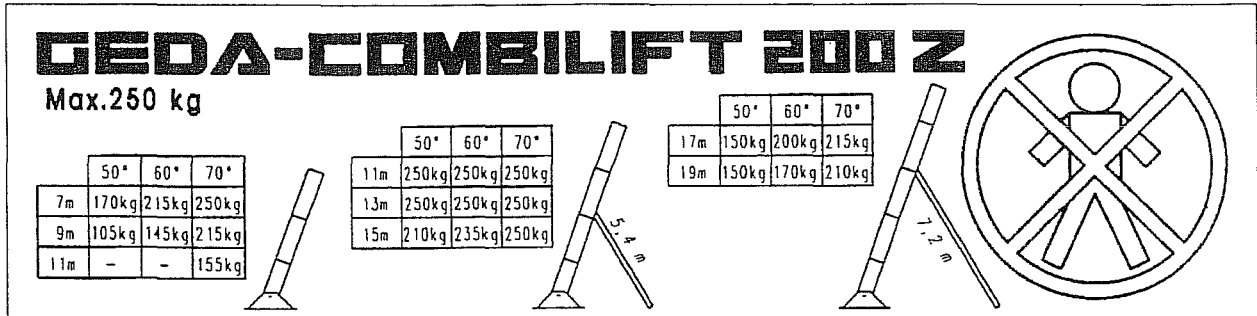

Fig. 28 Load table
- Loosen the existing screw connection on the angle track section (1) and separate the angle track section.
- Connect the extension angle track sections (2) to the angle track section, as shown in Fig. 28.
- Insert two screws into the M8 threads of the butt plate (3). Mount the butt plate to the angle track section with two screws, as shown. Observe maximum torque (25 Nm).